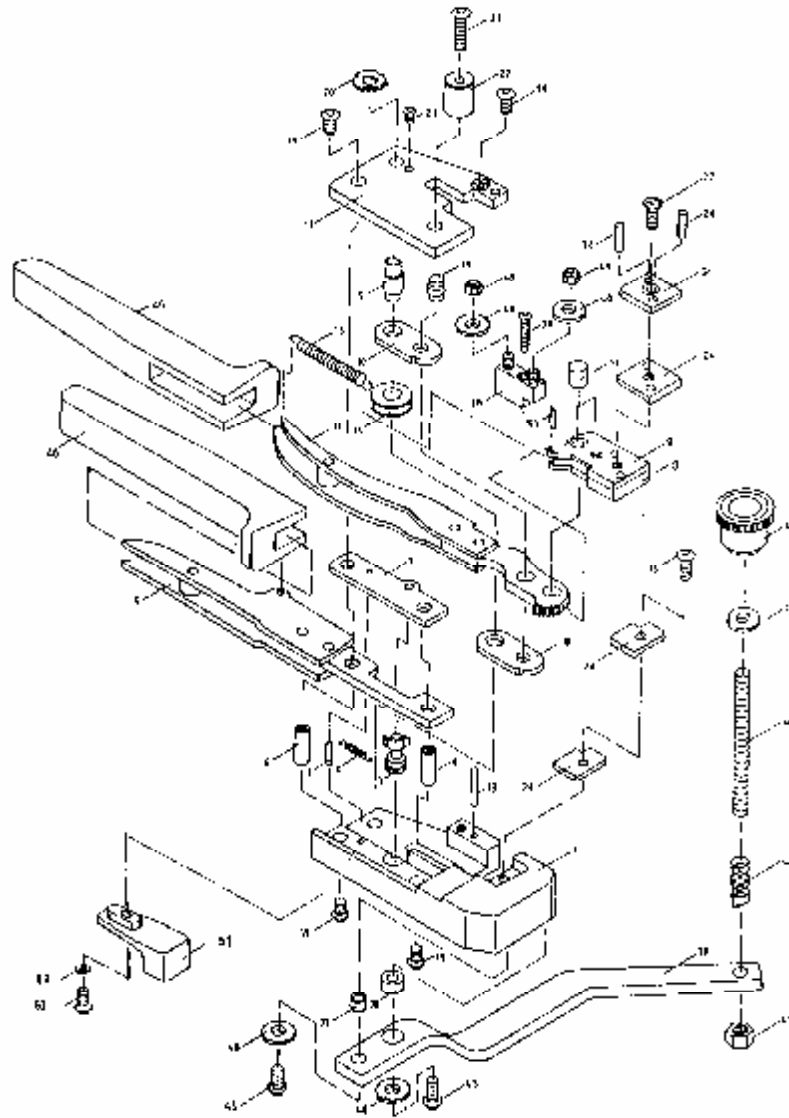

Figure 1
1. Place the handtool in your left hand, so that the movable handle (item 11 , figure 1) may be actuated by your thumb.
6. When the handtool is completely closed, the movable handle (item 11 , figure 1) may be returned to its starting position.
This is done by loosening the screw (item 21 , figure 1) and rotating the stop rings (item 20 , figure 1) one stop to change the crimp height approximately 0.05 mm (0.002 inches).
CAUTION: No adjustments should be made with screw (item 21, fig 1), nut (item 22, fig 1) and with screw (item 23, fig 1).
Parts for figure 1